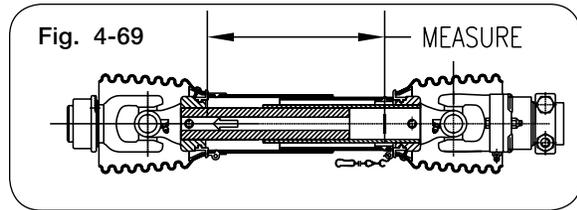

Fig. 4-69
7. Measure the length “L” from the same points as used in step 1. **This distance must be at least 1.5 inches greater than the distance measured in step 1.** If necessary, adjust the length of the PTO shaft by cutting the inner and outer plastic guard tubes and inner and outer sliding profiles by the same length. Round off all sharp edges and remove burrs before greasing and reassembling shaft halves. (Fig. 4-69)